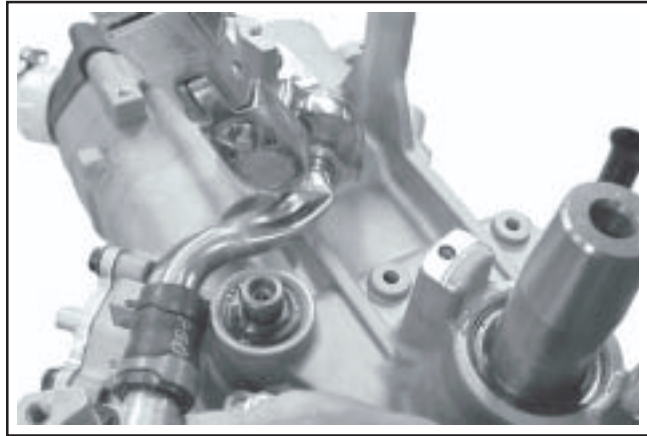

Figure 11-53. Torquing the Hex. Cap on Fitting After Pump Installation.
9. Push down on the formed tube and hold in this position to prevent it from pivoting upward when tightening the hex. cap. Torque the hex. cap to **22.6 N-m (200 in. lb.)**, to secure the joint connection. Support the fitting with a wrench while torquing, if possible, to prevent applying unnecessary pressure on fitting and joint. See Figure 11-53. Check that the formed tube and hose section have not been pulled up.